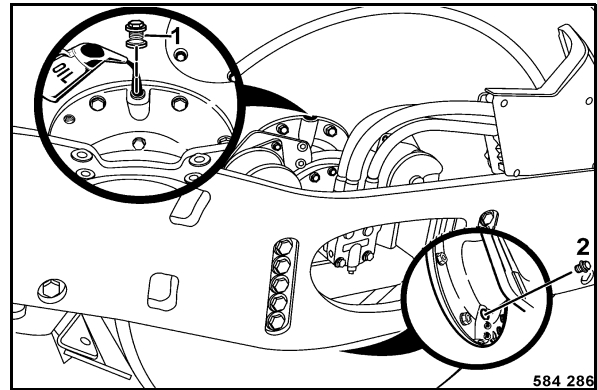

Fig. 132
- Move the drum, until the level control plug 2 (Fig. 132) is in lowest position.